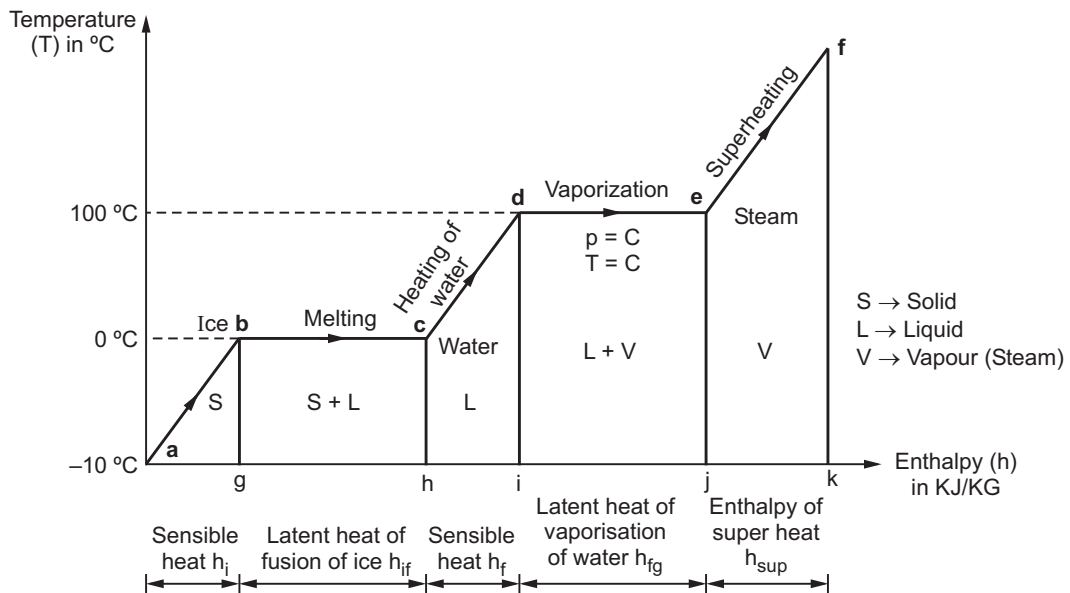

Fig. 2.5 : Graphical representation of steam formation process
- Formation of steam from ice at constant pressure is shown in Fig. 2.5 on a temperature enthalpy (T - h) diagram.